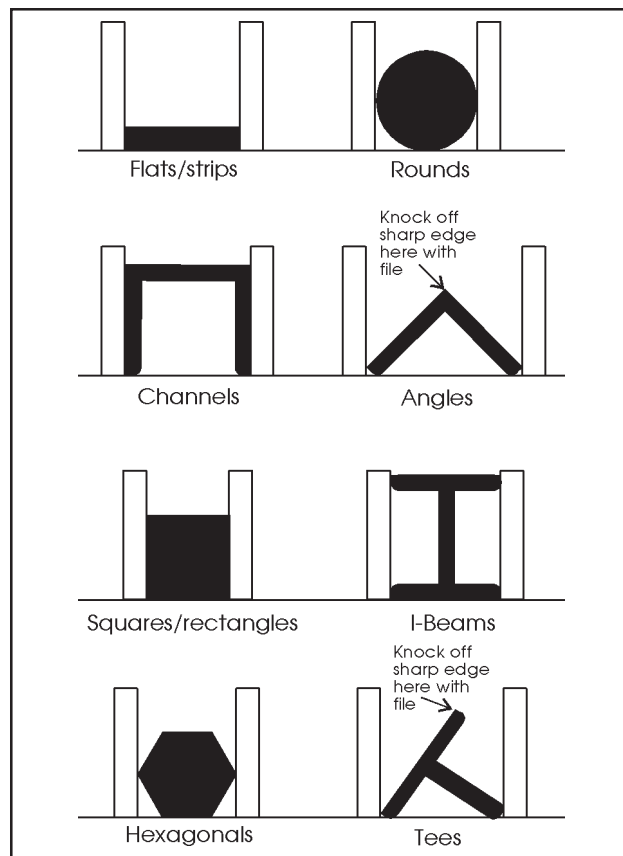

Figure 4: Clamping methods for various cross-sections of stock
The method for clamping different cross-section work pieces is shown in *Figure 4*.
2. Be certain you knock off the sharp corners of any work piece material which might damage the blade. See *Figure 4*.